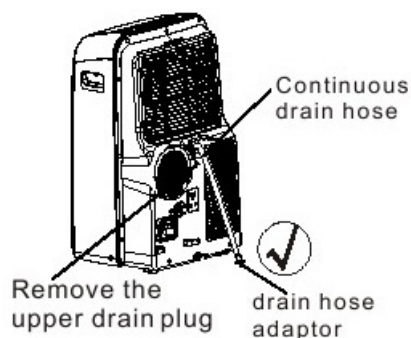

Fig.20a
- Position the open end directly over drain area. (Fig.20a)